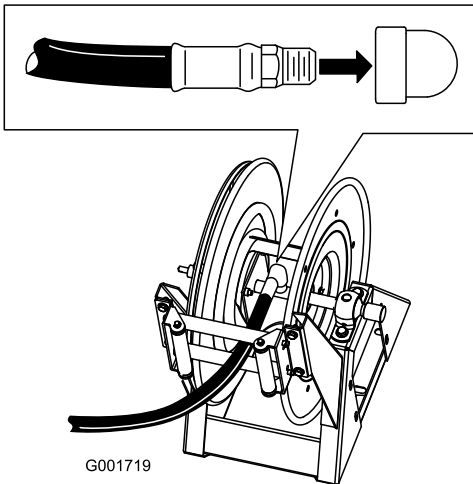

Figure 38
1. Wrap Teflon® tape around the threads of the hose fitting on the long hose, and install the fitting into the connecting tube on the reel (Figure 38).